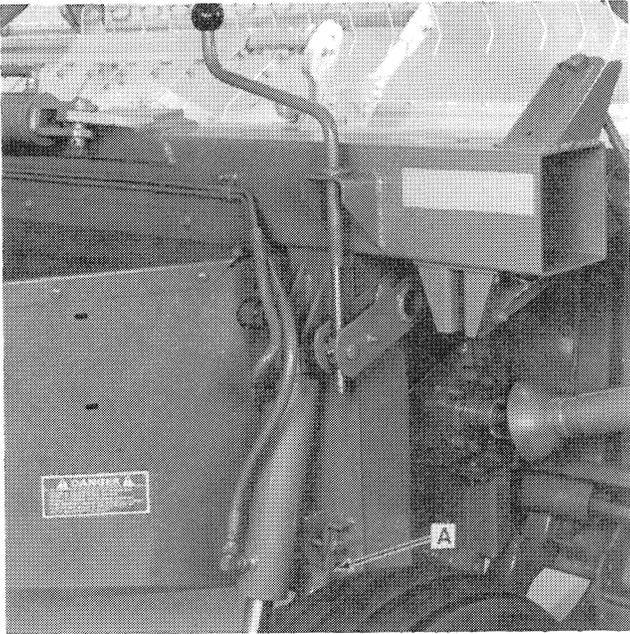

FIGURE 31
2. Engage stop links, A, Figures 31 and 32, in locked position as shown. Lower header so weight is carried on stop links.